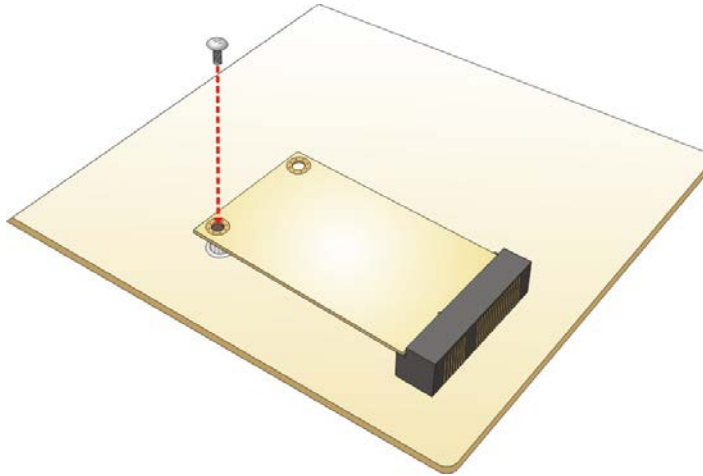

Figure 4-6: Securing the Full-size PCIe Mini Card
Step 3: Secure the M.2 module with an M2*3 retention screw (**Figure 4-6**).
Step 4: Secure the full-size PCIe Mini card with the retention screw previously removed (**Figure 4-6**).